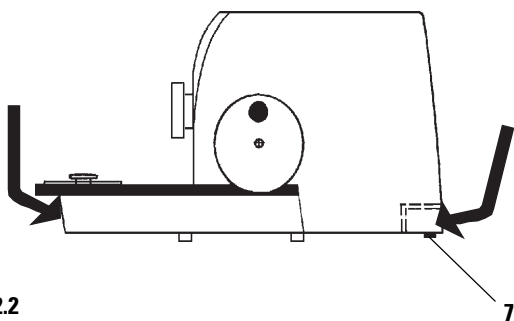

Fig. 12.2
- Open the outer cardboard box (1).
- Take out the accessory box (2) and the instruction manual.
- Remove the outer cardboard box (1) by lifting it upwards.
- Fold down the lateral parts of the inner cardboard box (6).
- Take out the fixing module (3).
- Lift the instrument (4) from the foam stabilizers (5) holding it at the front of the base plate and at the recessed grip at the rear (Fig. 12.2).
- Remove two screws (8) at the top and the bottom of each of the four sides of the crate and then take off the lid (1).
- Remove the foam bridge (2).
- Remove the side wall frame (3) lifting it upwards.
- Take out the accessory box (6).
- Lift the instrument (4) from the foam stabilizers (5) on the wooden pallet, holding it at the front of the base plate and at the recessed grip at the rear (**Fig. 12.2 - see previous page**).
The instrument is equipped with two slide faces (7, **Fig. 12.2 - see previous page**) at the rear of the base plate to facilitate repositioning on the work bench.